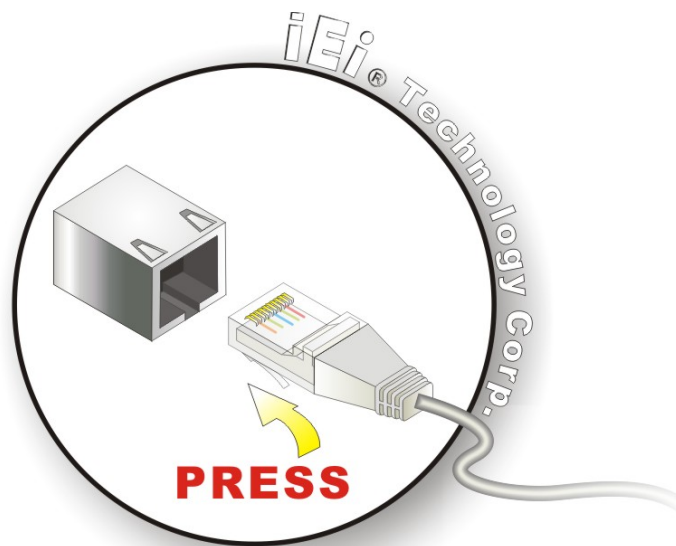

Figure 4-19: LAN Connection
Step 2: **Align the connectors.** Align the RJ-45 connector on the LAN cable with the RJ-45 connector on the WAFER-CV-D25501/N26001. See **Figure 4-19**.